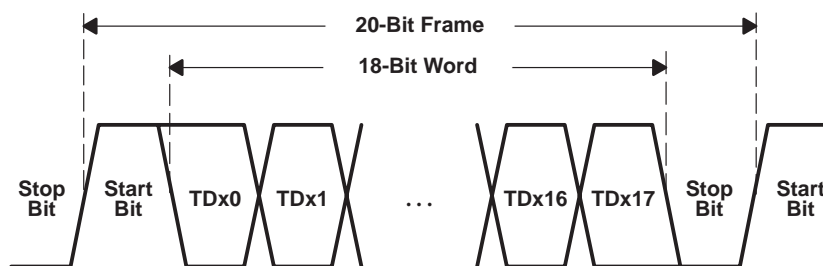

Figure 3. Serial Output Data Stream With Start and Stop Bit
All true serial interfaces require a method of encoding to ensure minimum transition density so that the receiving PLL has a minimal number of transitions in which to stay locked onto the data stream. The signal encoding also provides a mechanism for the receiver to identify the word boundary for correct deserialization. The TLK4250 transceiver wraps a start bit (1) and a stop bit (0) around the 18-bit data payload as shown in Figure 3. This is transparent to the user, as the transceiver internally adds the framing bits to the data such that the user reads and writes actual 18-bit data.
The parallel-to-serial shift register takes in the 20-bit-wide frame multiplexed from the framing logic and converts it to a serial stream. The shift register is clocked on both the rising and falling edges of the internally generated bit clock, which is 10 times the GTx\_CLK input frequency. The LSB (TDx0) is first out after the start bit as shown in Figure 3.